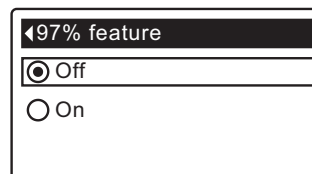

FIG. 76
- 8c. **97% feature:** If the desired option already has a black dot next to it (See Figure 76), go to Step 9. Otherwise, press the DOWN ▼ or UP ▲ buttons to scroll to the other option, then press OK/MENU to choose it. If this feature is On, the softener will automatically recharge when 97% of capacity is used, at any time of day. Default is Off.